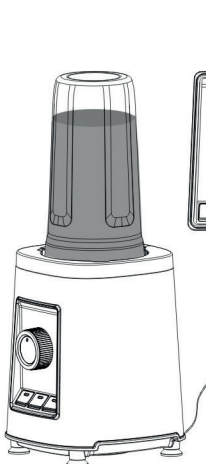

Fig 11
- Plug in and turn the function selector (14) to ON. Select the required program or optional variable setting. Fig 11.